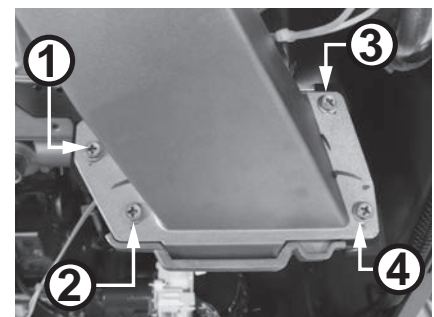

Figure 99 - Remove fan assembly screws
- 11** Locate the four (4) screws securing the fan assembly to the burner assembly as shown in Figure 99. Use a Phillips screwdriver to remove the screws. Place the screws aside in a safe place for reinstallation.